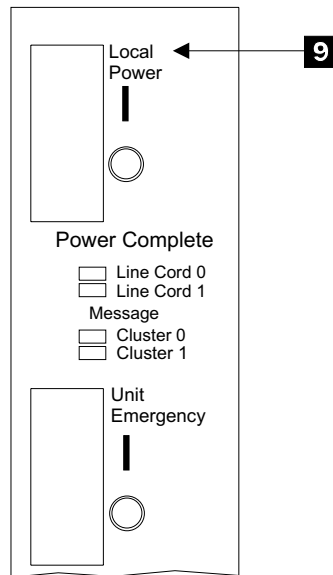

Figure 74. 2105 Model Exx/Fxx Operator Panel Switches (t007598m)
- Press the 2105 Model Exx/Fxx operator panel Local Power switch to On (I, up) **9**, in Figure 74 then release it.